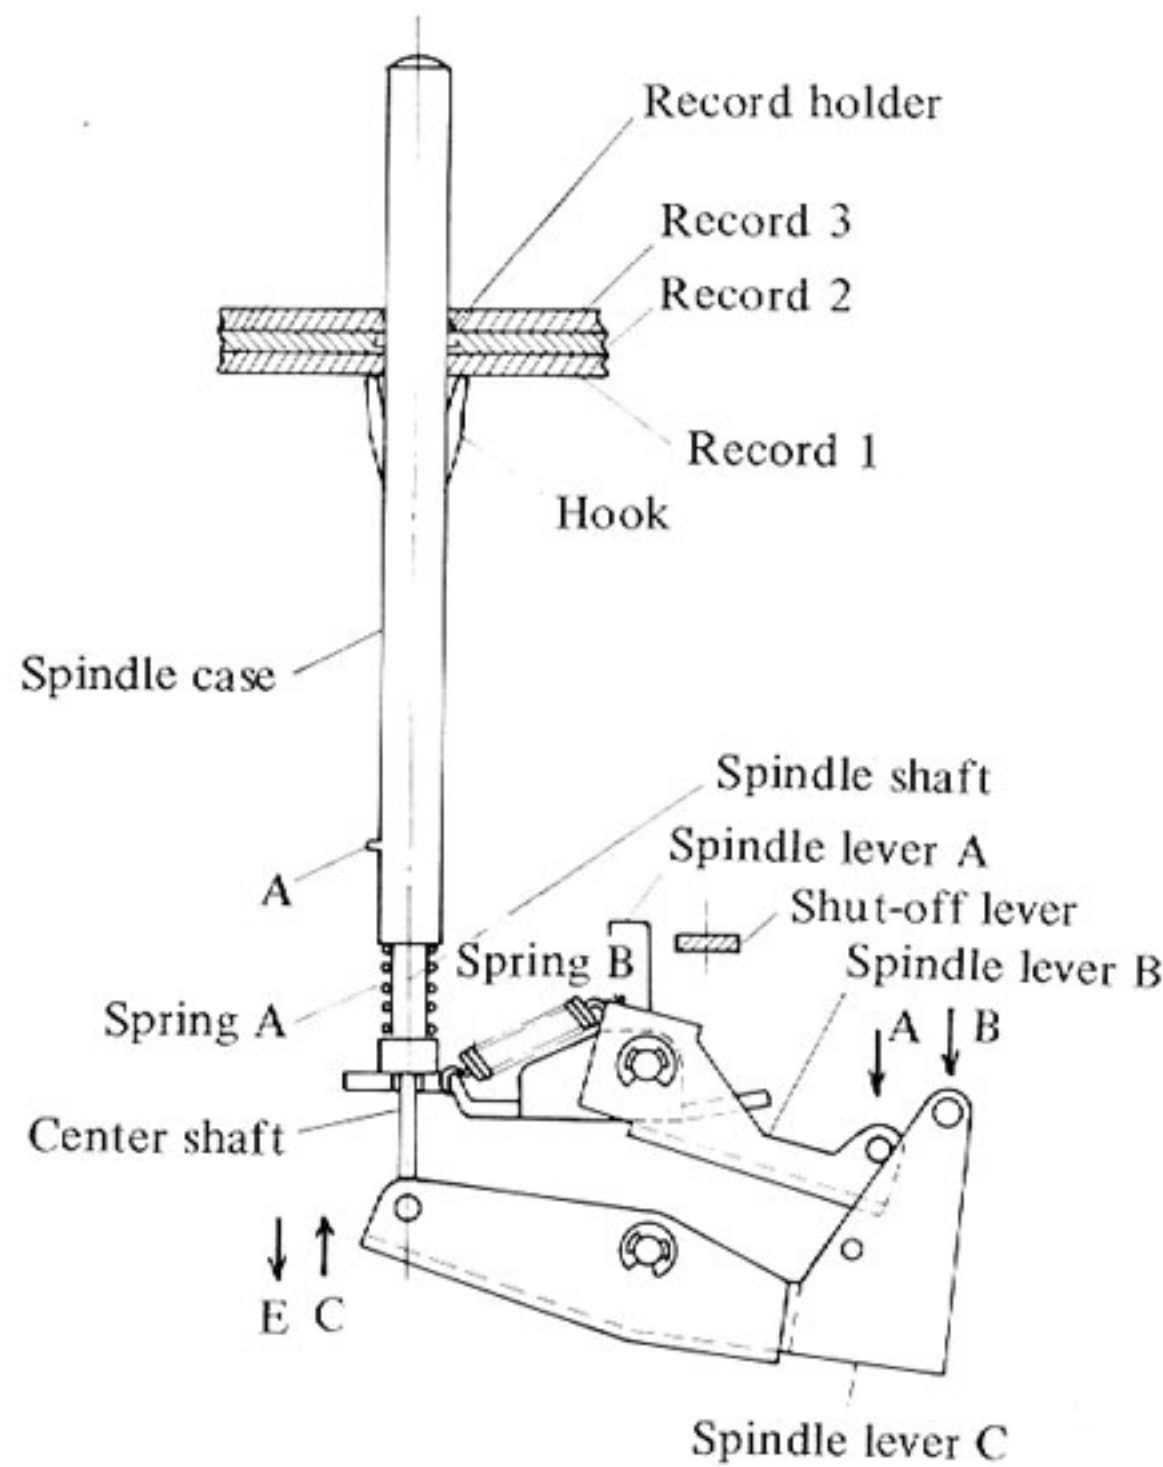
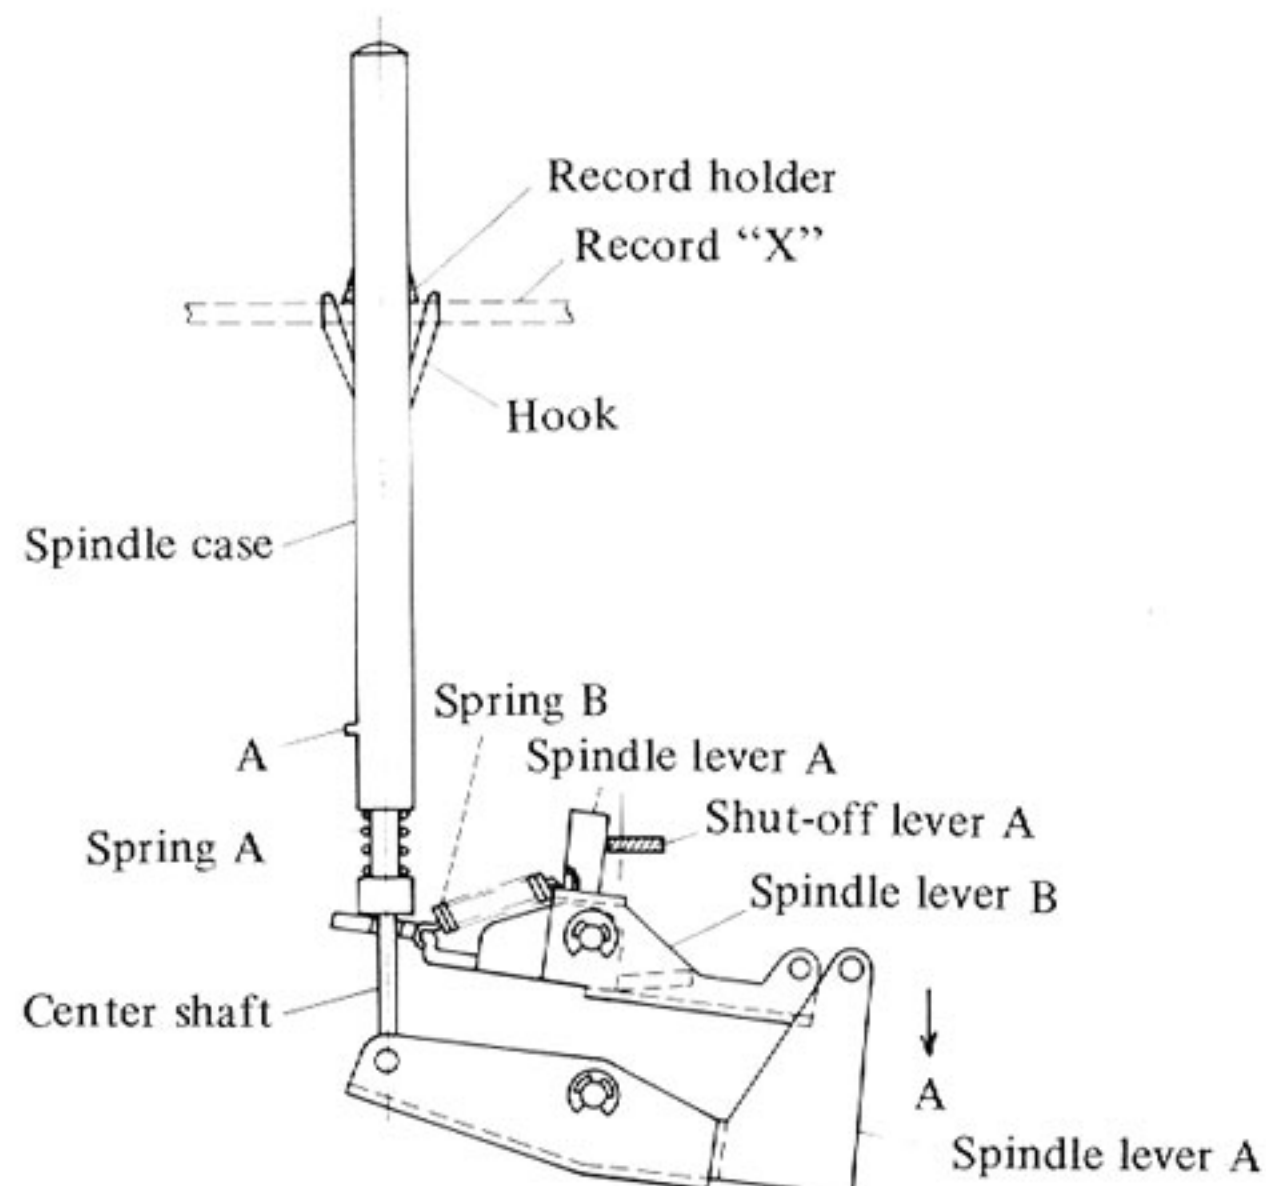
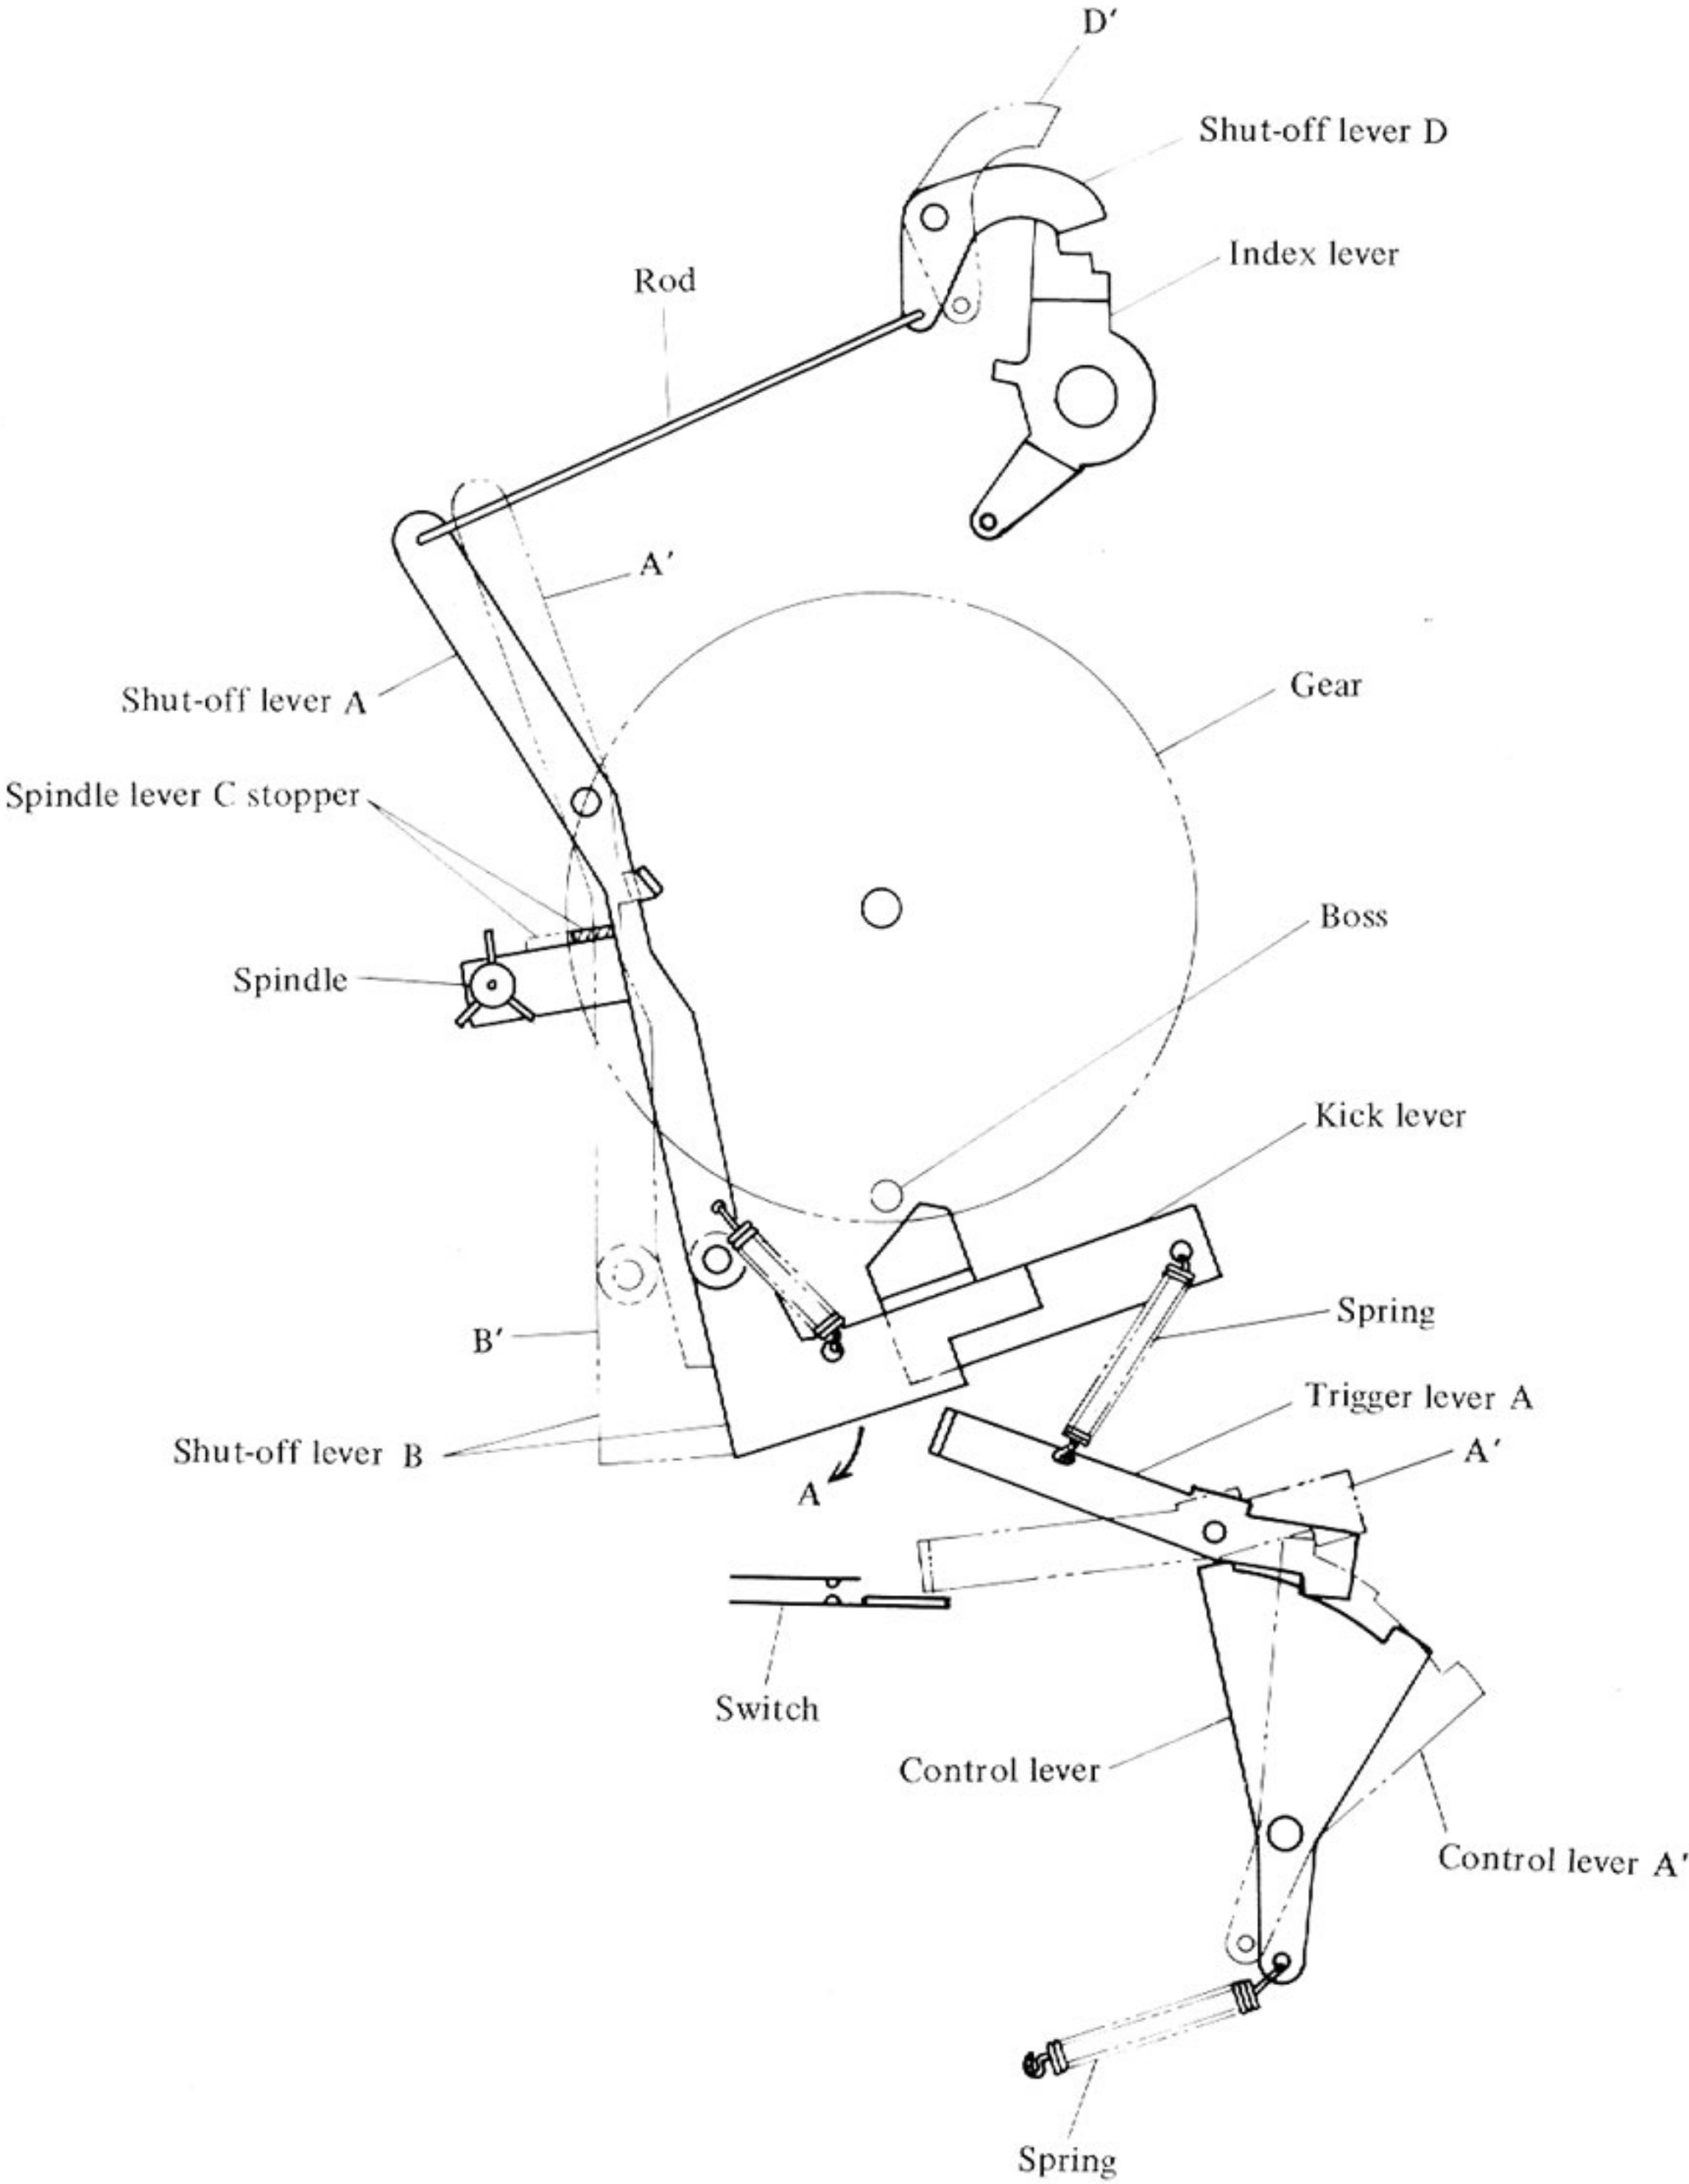

Fig. 12
Fig. 14
Fig. 15
- 3) Spindle lever B is pushed upward (in the direction of the arrow) as illustrated in Fig. 12. Then, the spindle shaft is moved down by spring A, and the hook linked to the spindle shaft is also moved downward into the spindle case. Thus one record alone lowers.
When a record remains on the spindle, spindle lever B is moved in the direction of A by the cam and is positioned as shown in Fig. 12. As explained above, the record keeps the hooks in its position, and thus spindle lever A stays where it is. When no record is on the spindle, spindle lever A goes up as illustrated in Fig. 14, and the hooks pass through the record (X) and move further upward. Then, the point of spindle lever A pushes shut-off lever A' in Fig. 15 down to the position of shut-off lever A. At the same
After the power switch is shut off, the final record play select mechanism returns to the original state. In Fig. 15, the dotted lines show the lever position when a record remains on the spindle. Both shut-off levers are kept apart, and the tone arm is on the tone arm dropping position. Since shut-off lever A' is positioned as indicated by the dotted lines, the out-away of the shut-off lever keeps it away from the trigger lever. This also keeps the power switch on.